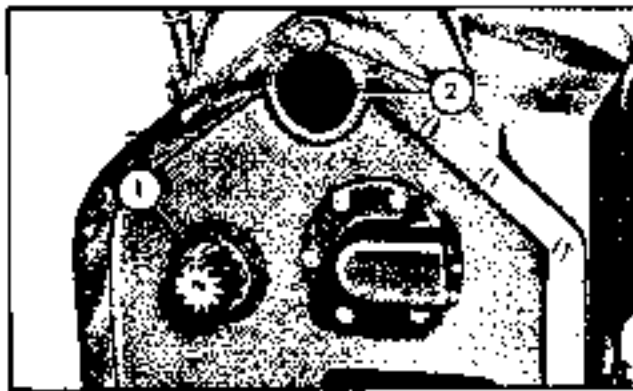

Fig. 1-56. Reassembling transmission
- p. Carefully install collector ring (21) over retainer (24). Side of collector ring with "O" ring must be against ball bearing.
- q. Set the case in an upright position. Install gear (30), with a thrust washer (59) on each side of it, and install shaft (38). Secure this assembly with a nut, spacer, and large washer as shown in figure 1-56. Install bearing cone and cup (32 and 33) if they have been removed, and install piston shaft (26). Install manifold and shim (1 and 5, figure 2-13).